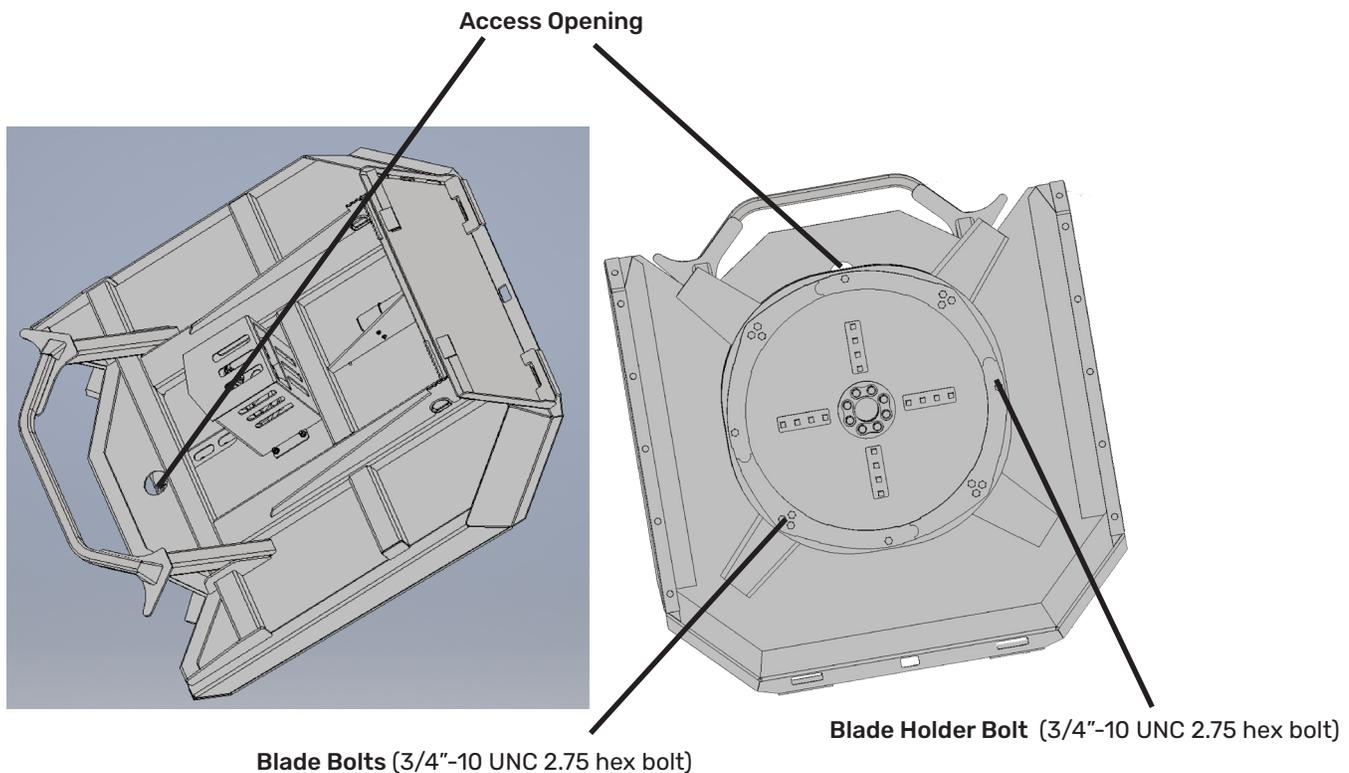

Figure 4.6a Blade Holder Access Opening & Bolt Diagram
2. SLOWLY rotate the blade holder until the blade holder nut is visible in the access opening at top of the deck and loosen the blade holder nut. DO NOT let bolt fall from holder. Repeat this step for the other three blade holder nuts. See figure 4.6a below.